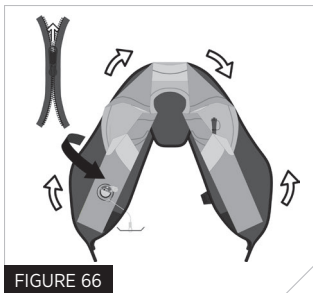

FIGURE 66
13. Bring the cover over and around the folded bladder. Bring both the zipper sliders around the perimeter zipper to the burst point (Fig 66).